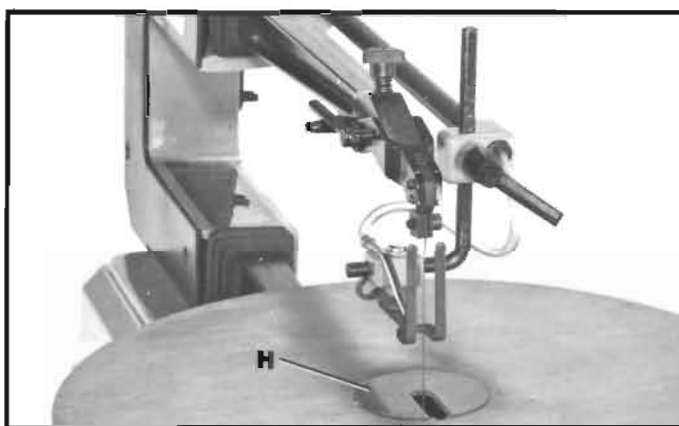

Fig. 6
4. Assemble table insert (H) Fig. 6, to opening in table, as shown.